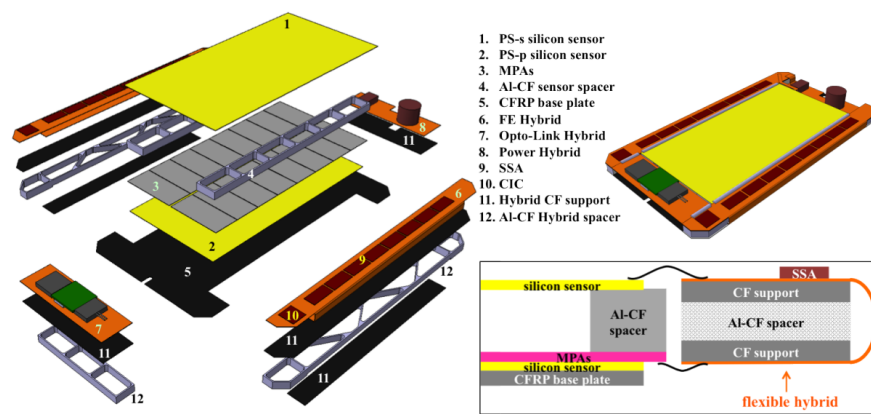

FIGURE 1.2: Exploded view of Pixel Sensor Module.
The CMS Phase-II Tracker will utilize two types of modules, 2S modules and PS modules. To achieve efficient rejection of low- p_T particles throughout the Tracker volume, modules in different regions will make use of a few different sensor spacings. For 2S (PS) modules, spacings of 1.8 and 4 mm (1.6, 2.6 and 4 mm) are foreseen. These modules will be used in the end-cap disks as well as the central barrel region of the Tracker. An exploded view of a PS module is shown in Figure 1.2. In the PS module, the sensors are glued to a carbon-fibre reinforced Aluminium (AL-CF) spacers which act as spacers and provide the thermal conductance crucial for the cooling of the module. The two sensors and spacers are in turn glued the carbon-fibre (CF) baseplate. This structure is henceforth referred to as the sensor-spacer-baseplate-assembly (SSBA). This project will focus on the assembly of the SSBA only. The precision requirements of the SSBA are shown in figure ?? . For the PS module, the sensors must align to within 40 μ m measured at the sensors short edge. This corresponds to a rotational alignment tolerance of 0.8 mrad.